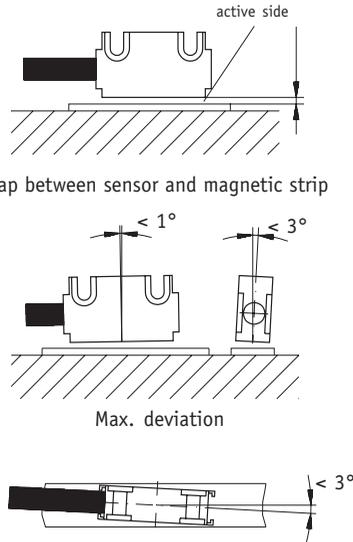

Fig. 7: Mounting of sensor
- When mounting the magnetic sensor, ensure that the gap between strip & sensor and the max. admissible deviation are maintained over the total measuring length! (see fig. 7)
- Tolerance for the gap between magnetic sensor and magnetic strip not observed over the **total** travel distance. Sensor touches strip (see fig. 7)
- Sensor's active side not mounted towards the magnetic strip (see fig. 7).